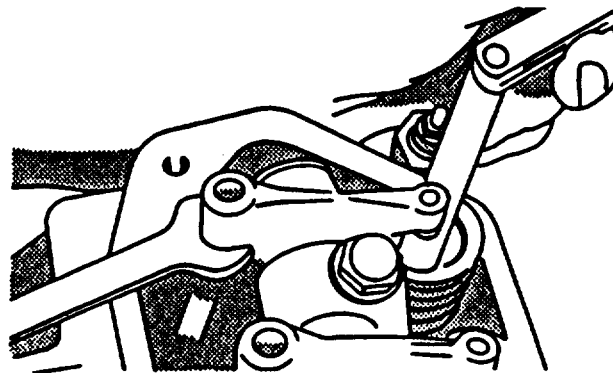

FIGURE 3-96. Checking Valve Clearance
- g. Adjust valve clearance on No. 1 and 3 exhaust valves and No. 1 and 2 intake valves, refer to FIGURE 3-96.
- c. Set rocker arm-to-valve tip clearance to 0.00 inch (0.00 mm) by turning adjustment nut clockwise until pushrod cannot be turned by hand for No. 1 and 3 exhaust and No. 1 and 2 intake valves, refer to FIGURE 3-96.